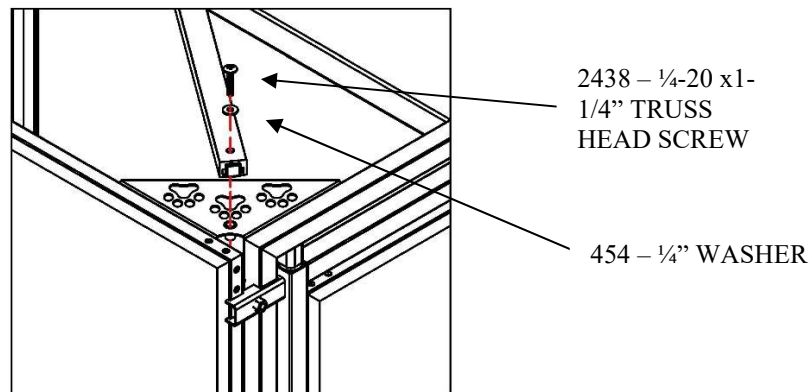

Figure 22
3. Next, loosely attach the brace to the threaded insert in the front gusset. See Figure 22.